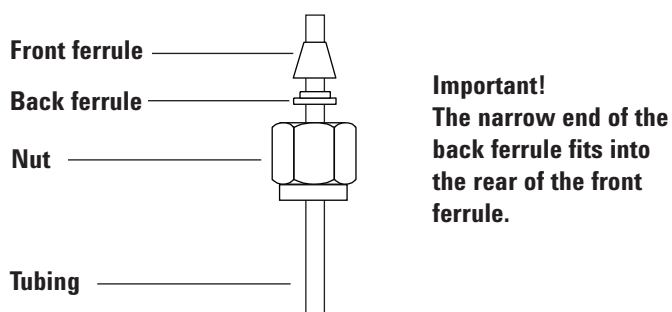

Figure 20. Swagelok nuts and ferrules
- 1 Place a Swagelok nut, back ferrule, and front ferrule to the tubing as shown in Figure 20.